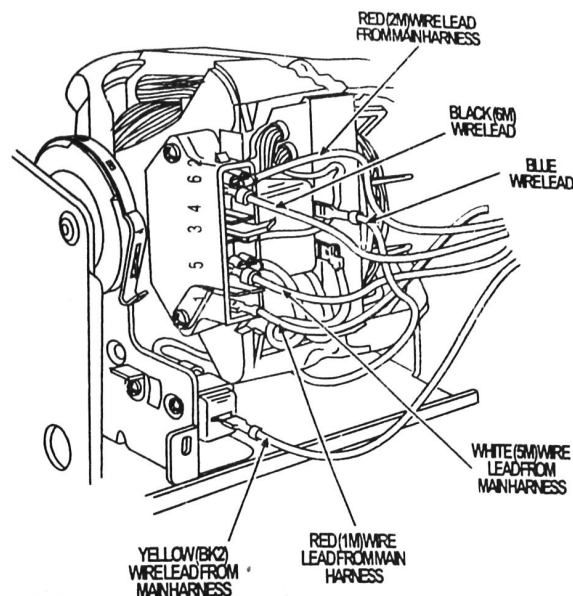

FIGURE 3
4. Connect the blue jumper wire lead from the broken belt switch to the vacant terminal located on the back of the overload protector of the motor switch. See Figure 3.
5. Connect the red (1M) wire lead from the main harness to the 1/4" terminal marked 1 on the motor switch. See Figure 3.
6. Connect the red (2M) wire lead from the main harness to the 1/4" terminal marked 2 on the motor switch. See Figure 3.
7. Connect the yellow (BK2) wire lead from the main harness to the vacant terminal on the broken belt switch. See Figure 3.
12. Connect the white (5M) wire lead from the main harness onto the 1/8" terminal marked 5 on the motor switch. See Figure 3.
13. Connect the black (6M) wire lead from the main harness onto the 1/8" terminal marked 6 on the motor switch. See Figure 3.